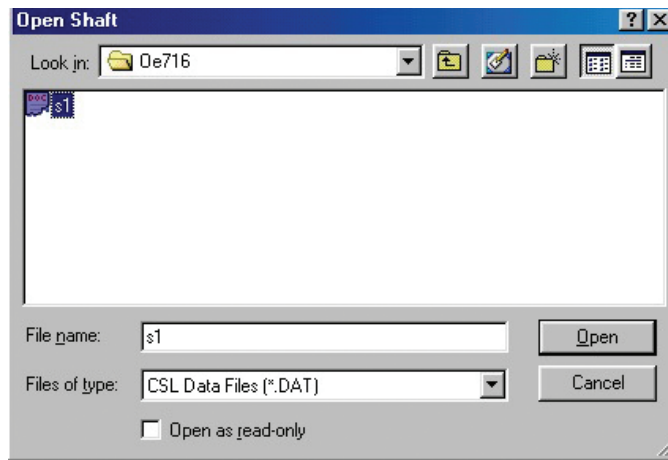

Figure 18: Open Shaft Dialog Box
1. The dialog in Figure 18 should appear on the screen to let the user select the existing shaft (or file). Select the shaft needed to be re-tested and click "open".